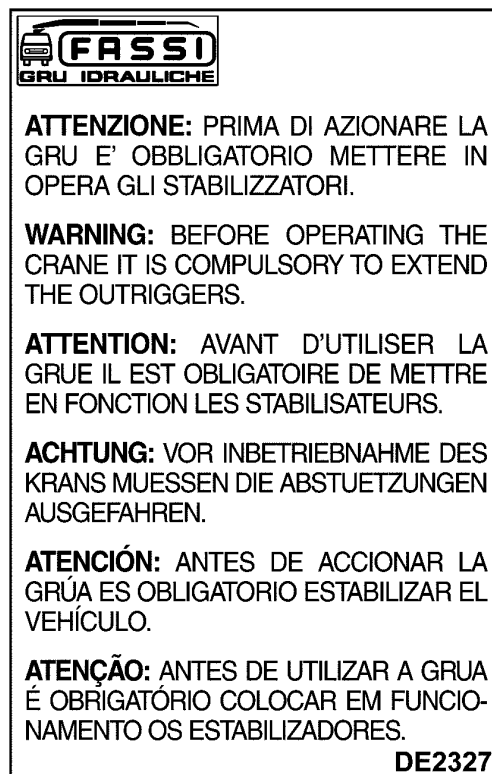

fig. 14
**Before operating the crane it is compulsory to set the outriggers.** (Plate DE2327 fig. 14)